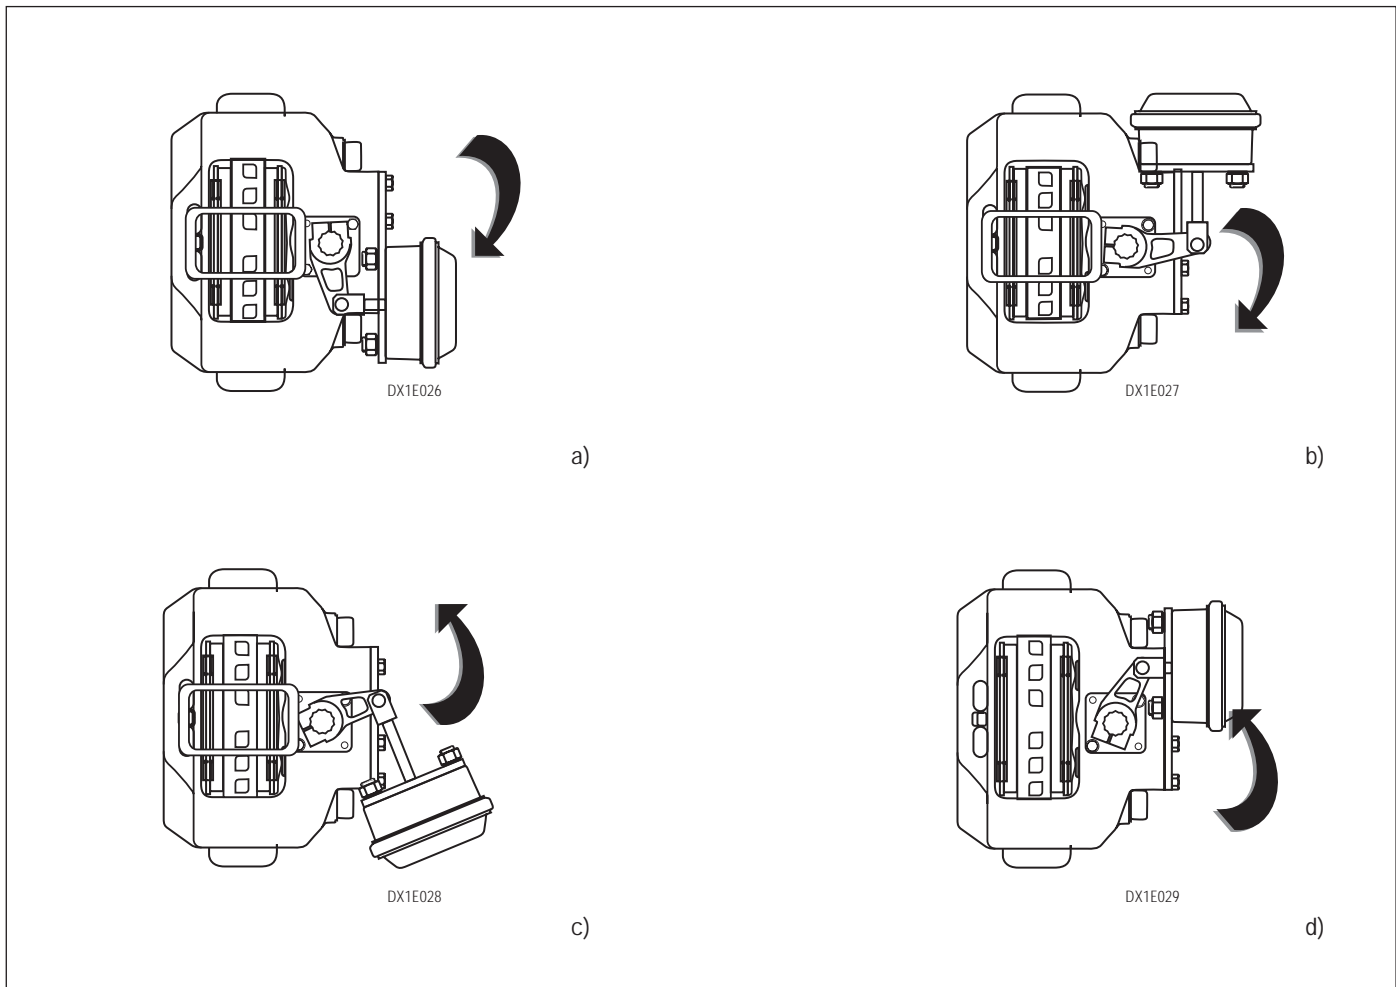

Fig. 2-2 Installation configuration
***RIGHT*** when actuation is clockwise (Fig. 2-2 a) and b))
***LEFT*** when actuation is counterclockwise (Fig. 2-2 c) and d))
***Clockwise actuation (Fig. 2-2 a) and b)) will always require left-hand threaded adjuster sleeves and pistons (actuation pistons marked on the bottom with the letter L) and its related right housing (R.H.). The opposite applies for brakes with counterclockwise actuation (Fig. 2-2 c) and d)).***
\*\*\* These components are different according to actuation direction (clockwise or counter – clockwise) (Fig. 2-2).